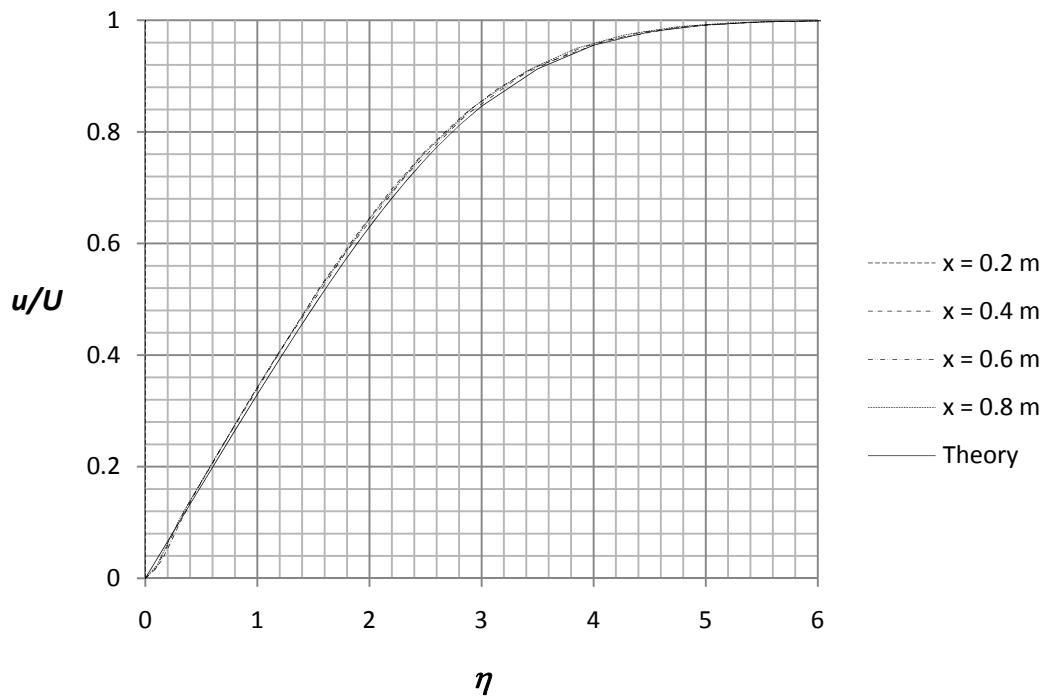

Figure 2.25a) Velocity profiles in comparison with the theoretical Blasius profile (full line)
26. Place the file “xy-plot figure 2.25a)” into the **Local Disk (C:)/Program Files /SolidWorks (2)/SolidWorks Flow Simulation/lang/english/template/XY-Plots** folder to make it available in the **Template** list. Repeat step 24 and select the new template for the XY-plot. Rename the xy-plot to **Comparison with Blasius Profile**.
We see in figure 2.25a) that all profiles at different streamwise positions approximately collapse on the same Blasius curve when we use the boundary layer similarity coordinate.